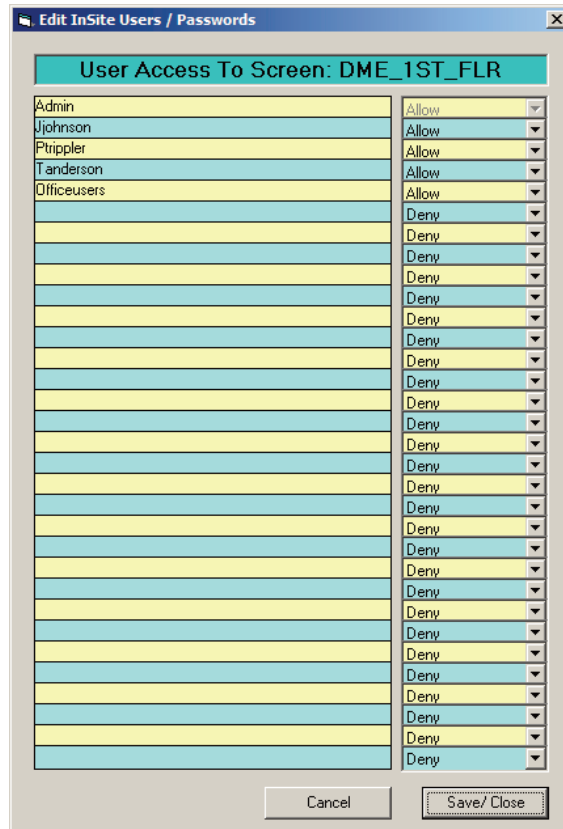

Figure 2.24 User Access
3. From the pull-down menu, select Allow for every user you want to give access to this screen as shown in figure 2.24.